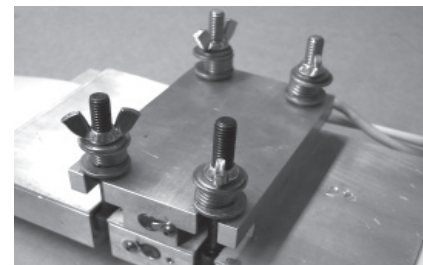

Fig. 8
10. Insert the other end of the band into the opposite end of the welding fixture, making sure the two band ends contact. Tighten the wing nuts until band is secured and then tighten all four wing nuts evenly until the coil springs are completely compressed. See Fig. 8.